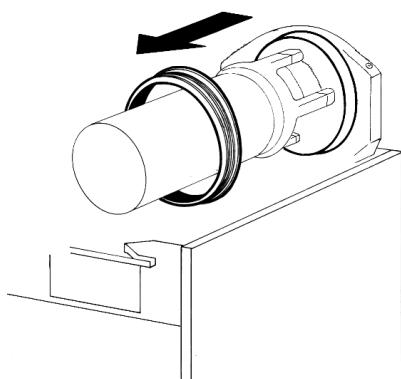

figure 8
- 4** Remove the bowl gasket from its seat (see figure 8).